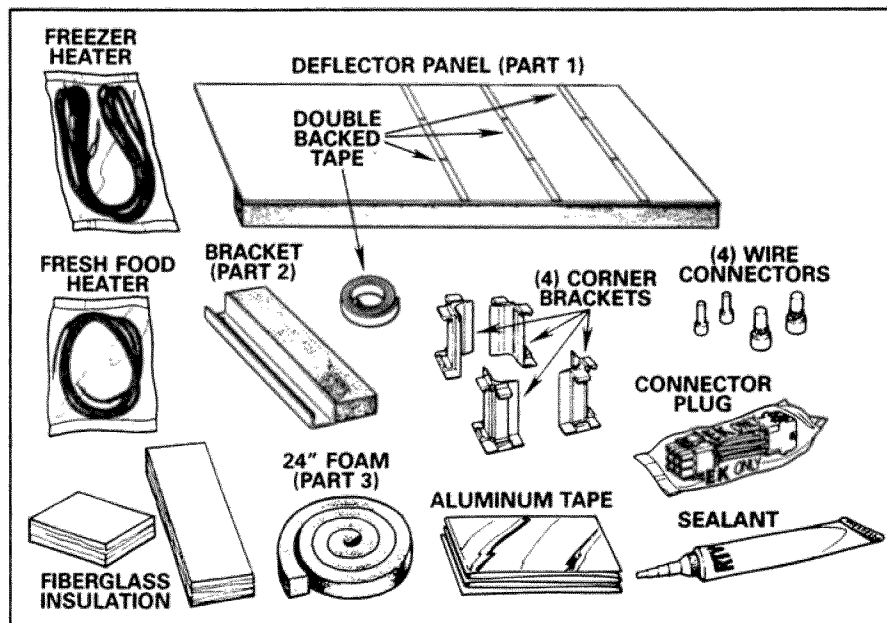

Figure 1 - Moisture Fix Kit Parts
1. **Layout the kit parts** and check each part to ensure all parts are present. Refer to Figure 1